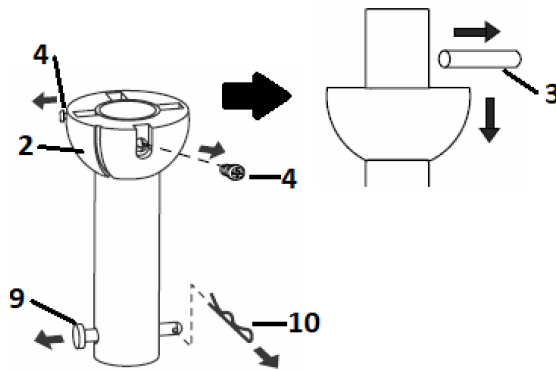

Fig. 6.1
1. Remove the ball joint (2) and dowel pin (3) by loosening the set screws (4) from the down rod (6). Remove the hitch pin (9) by removing the lock clip (10) (**Fig. 6.1**). **NOTE: Do not discard keep these parts, they are required to reassemble later.**